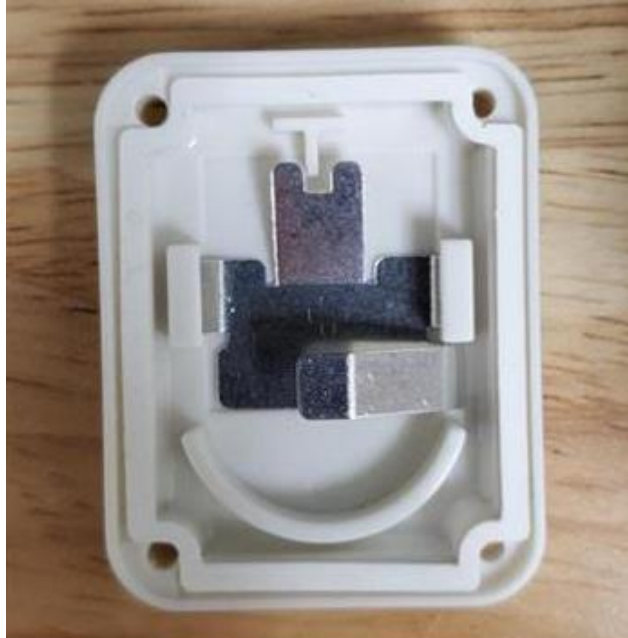

Figure 2-10: Proper Gasket Appearance
4. Check that the gasket is undamaged and still properly seated with an adhesive on the battery cover. It should look similar to Figure 2-10.